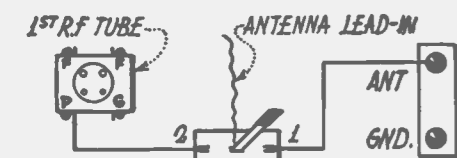

Fig. 1. Antenna Switch for Short-Wave Reception.
baseboard as shown in Fig. 1. This switch is in position (1) when the regular 200-600 meter coils are used, and in position (2) when the short wave coils are used.